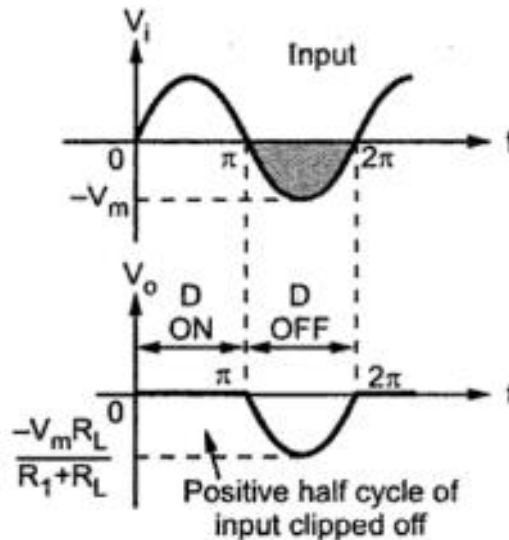

Fig. 2.21 Waveforms for parallel clipper
- The waveforms are shown in the Fig. 2.21.